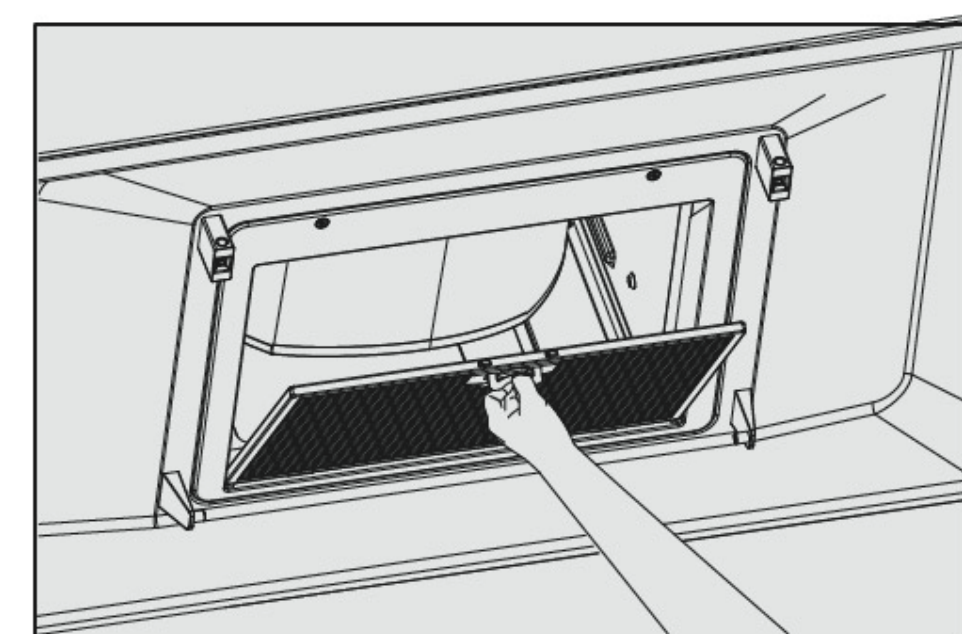
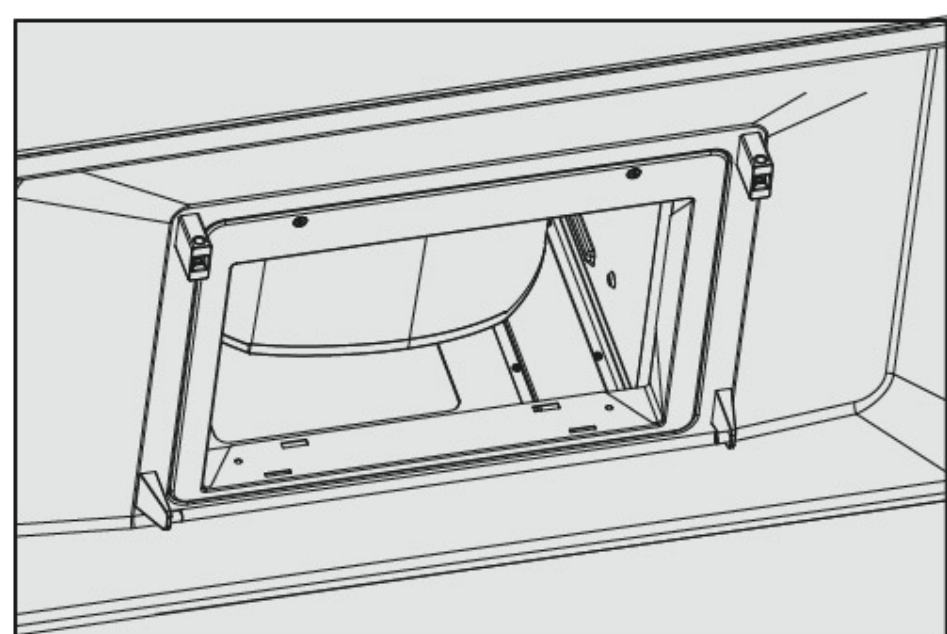

Fig.4
Fig.5
- (1) Take down the plain net component according to Figure 4 and Figure 5;